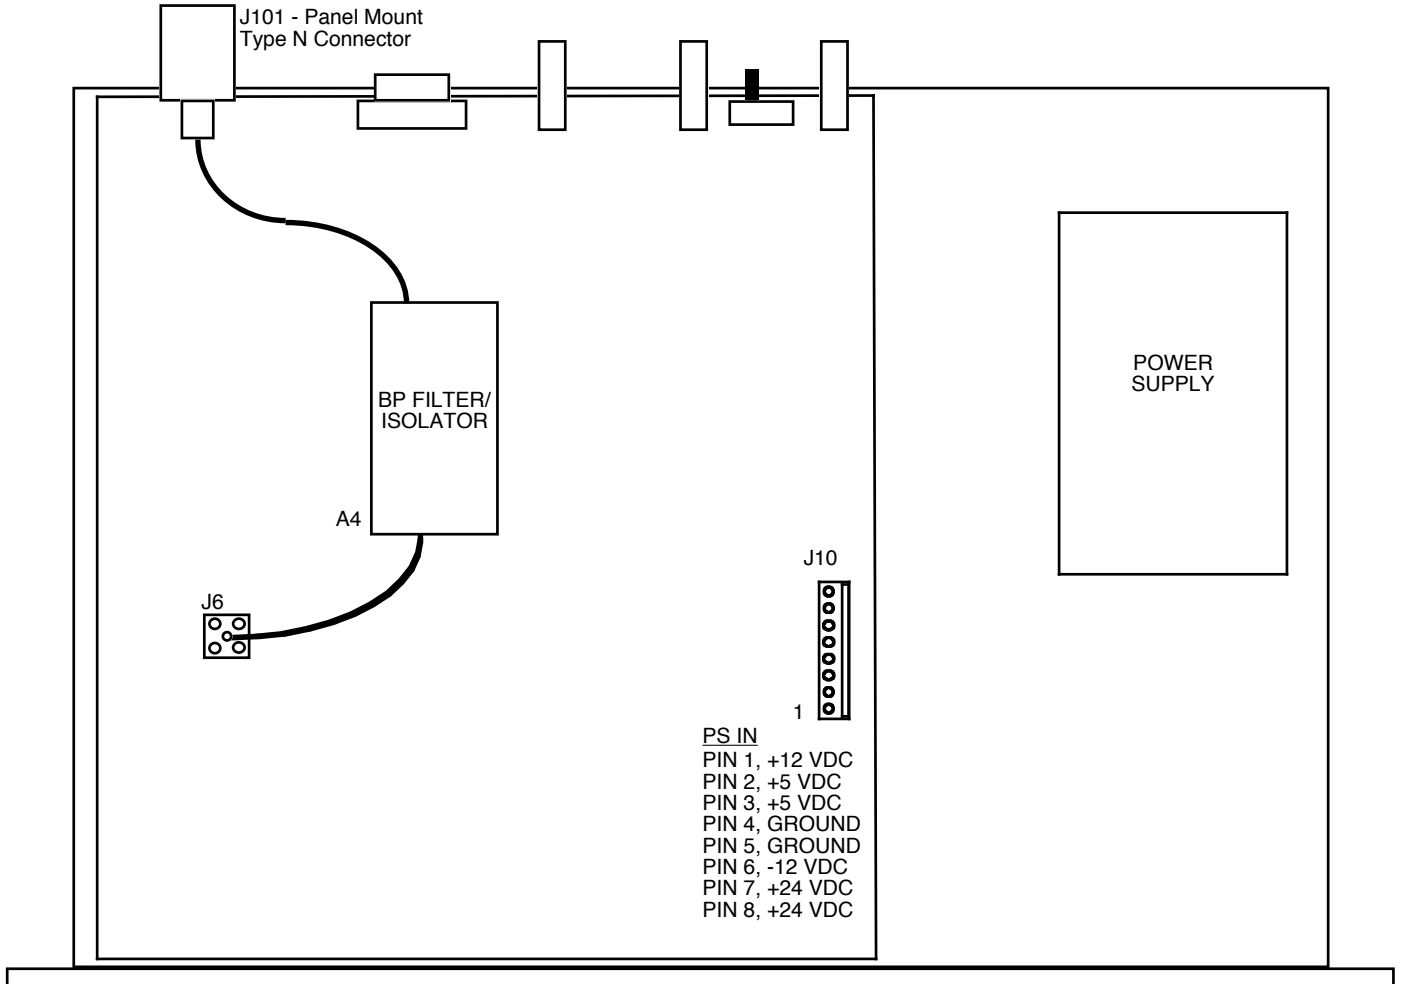

FIGURE 2.0 2116-172192 Mechanical Assembly
2.1 Mechanical - The 2116-172192 consists of one RF PCB housed in a 1 RU (1 3/4 inch high) by 14 inch deep chassis. A switching, ± 12 , +24, +5 VDC power supply provides power for the assemblies. The 2116-172192 can be secured to a rack using the 4 holes on the front panel. Figure 2.0 shows how the 2116-172192 is assembled.